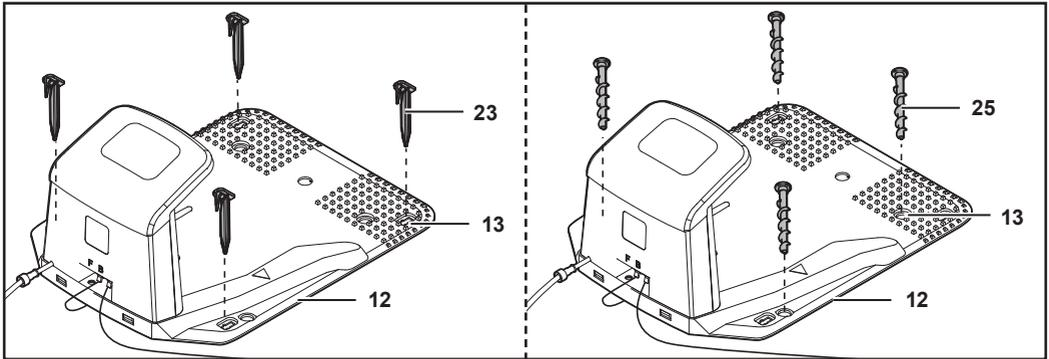

Fig. 23
- Securely fasten the charging station (12) to the ground using the ground stakes (25) and hex key (26) or the pegs (23) (Fig. 23).